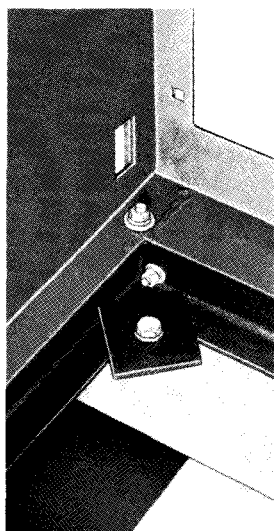

Fig. 1 4630-XX
3. Remove all exterior packing, open doors and unbolt skid, Fig. 1.